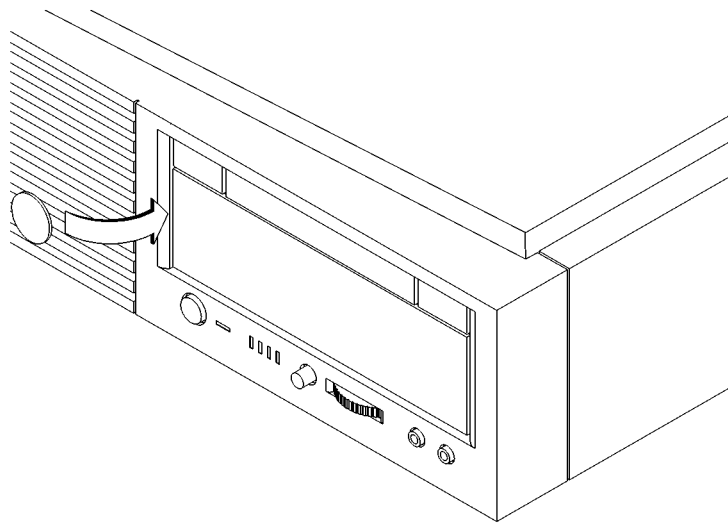

Figure 28
- 1 Remove the disk filler panel from the bottom location of the storage tray bezel by using a coin or other flat, blunt, object to pry it from the front., as shown in Figure 28.